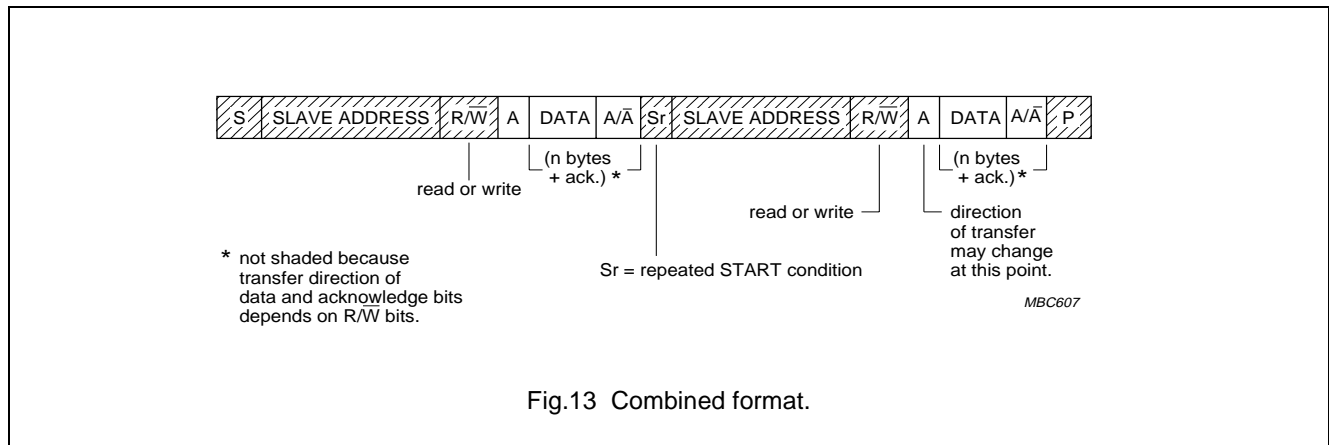

Fig.13 Combined format.
- Combined format (see Fig.13). During a change of direction within a transfer, the START condition and the slave address are both repeated, but with the R/W bit reversed. If a master receiver sends a repeated START condition, it has previously sent a not-acknowledge (\bar{A}).